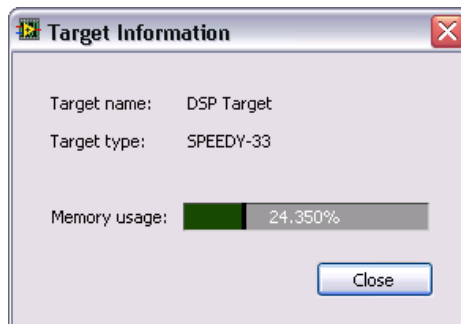

Figure 17. Viewing Memory Usage While the DSP Application Is Running
4. While the DSP application is running, right-click **DSP Target** in the **Project Explorer** window and select **Utilities»Target Information** from the shortcut menu to open the **Target Information** dialog box shown in Figure 17. The **Target Information** dialog box provides information about memory usage on the DSP target.